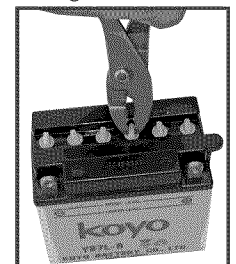

Figure 26
- After charging is complete, re-install securely all six battery caps (see figure 26)